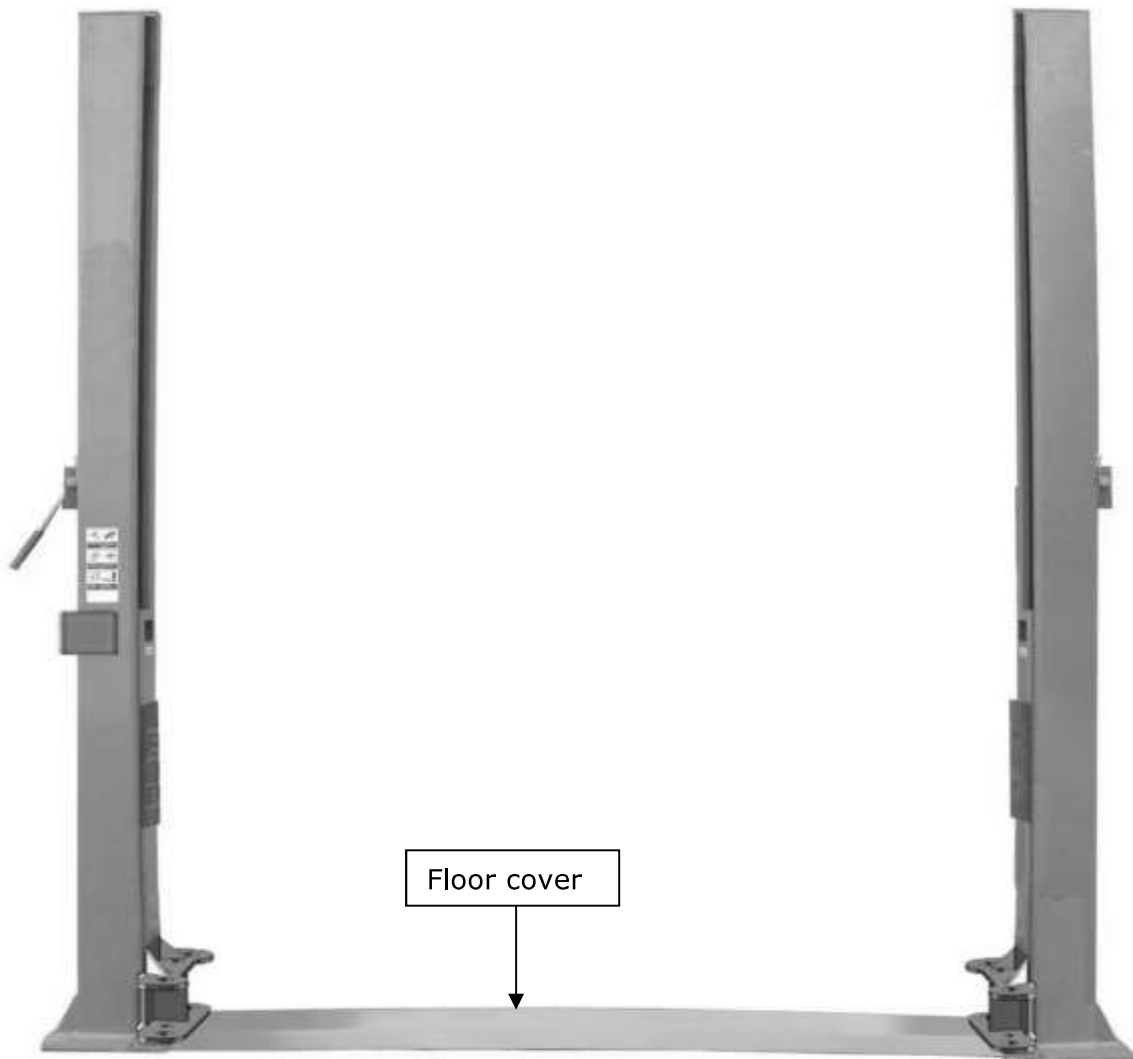

Fig. 24
M. Install floor cover and protective rubber sets (See Fig. 24).